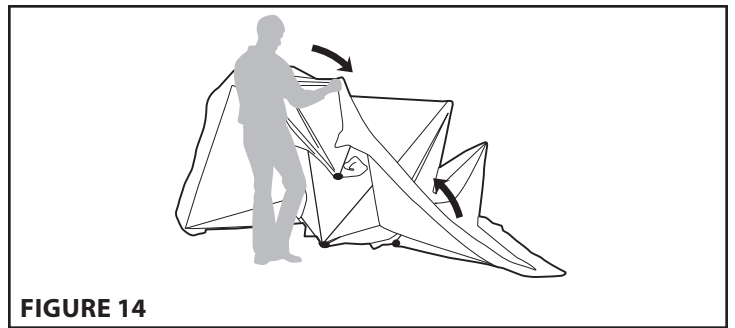

FIGURE 14
7. The tent will now be back in its flat stage just as it was when it was unfolded out of the carry bag. Gather all corners of the shelter and fold together. Do not force the tent when folding. Watch for the entanglement of poles. [**SEE FIGURE 14**]